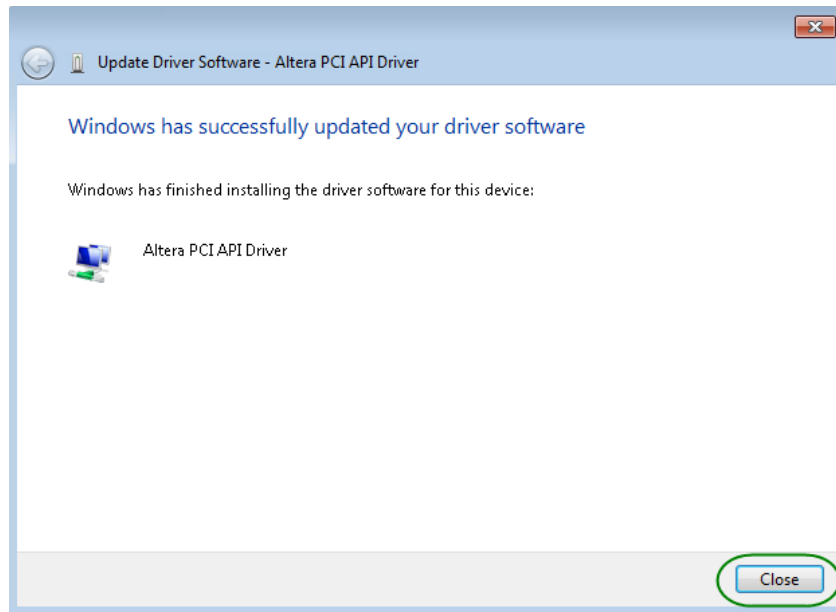

Figure 5-7 Click Close when the installation of the Altera PCI API Driver is complete
9. When the driver is installed successfully, the successfully dialog will appear, as shown in **Figure 5-7**. Click the **Close** button.